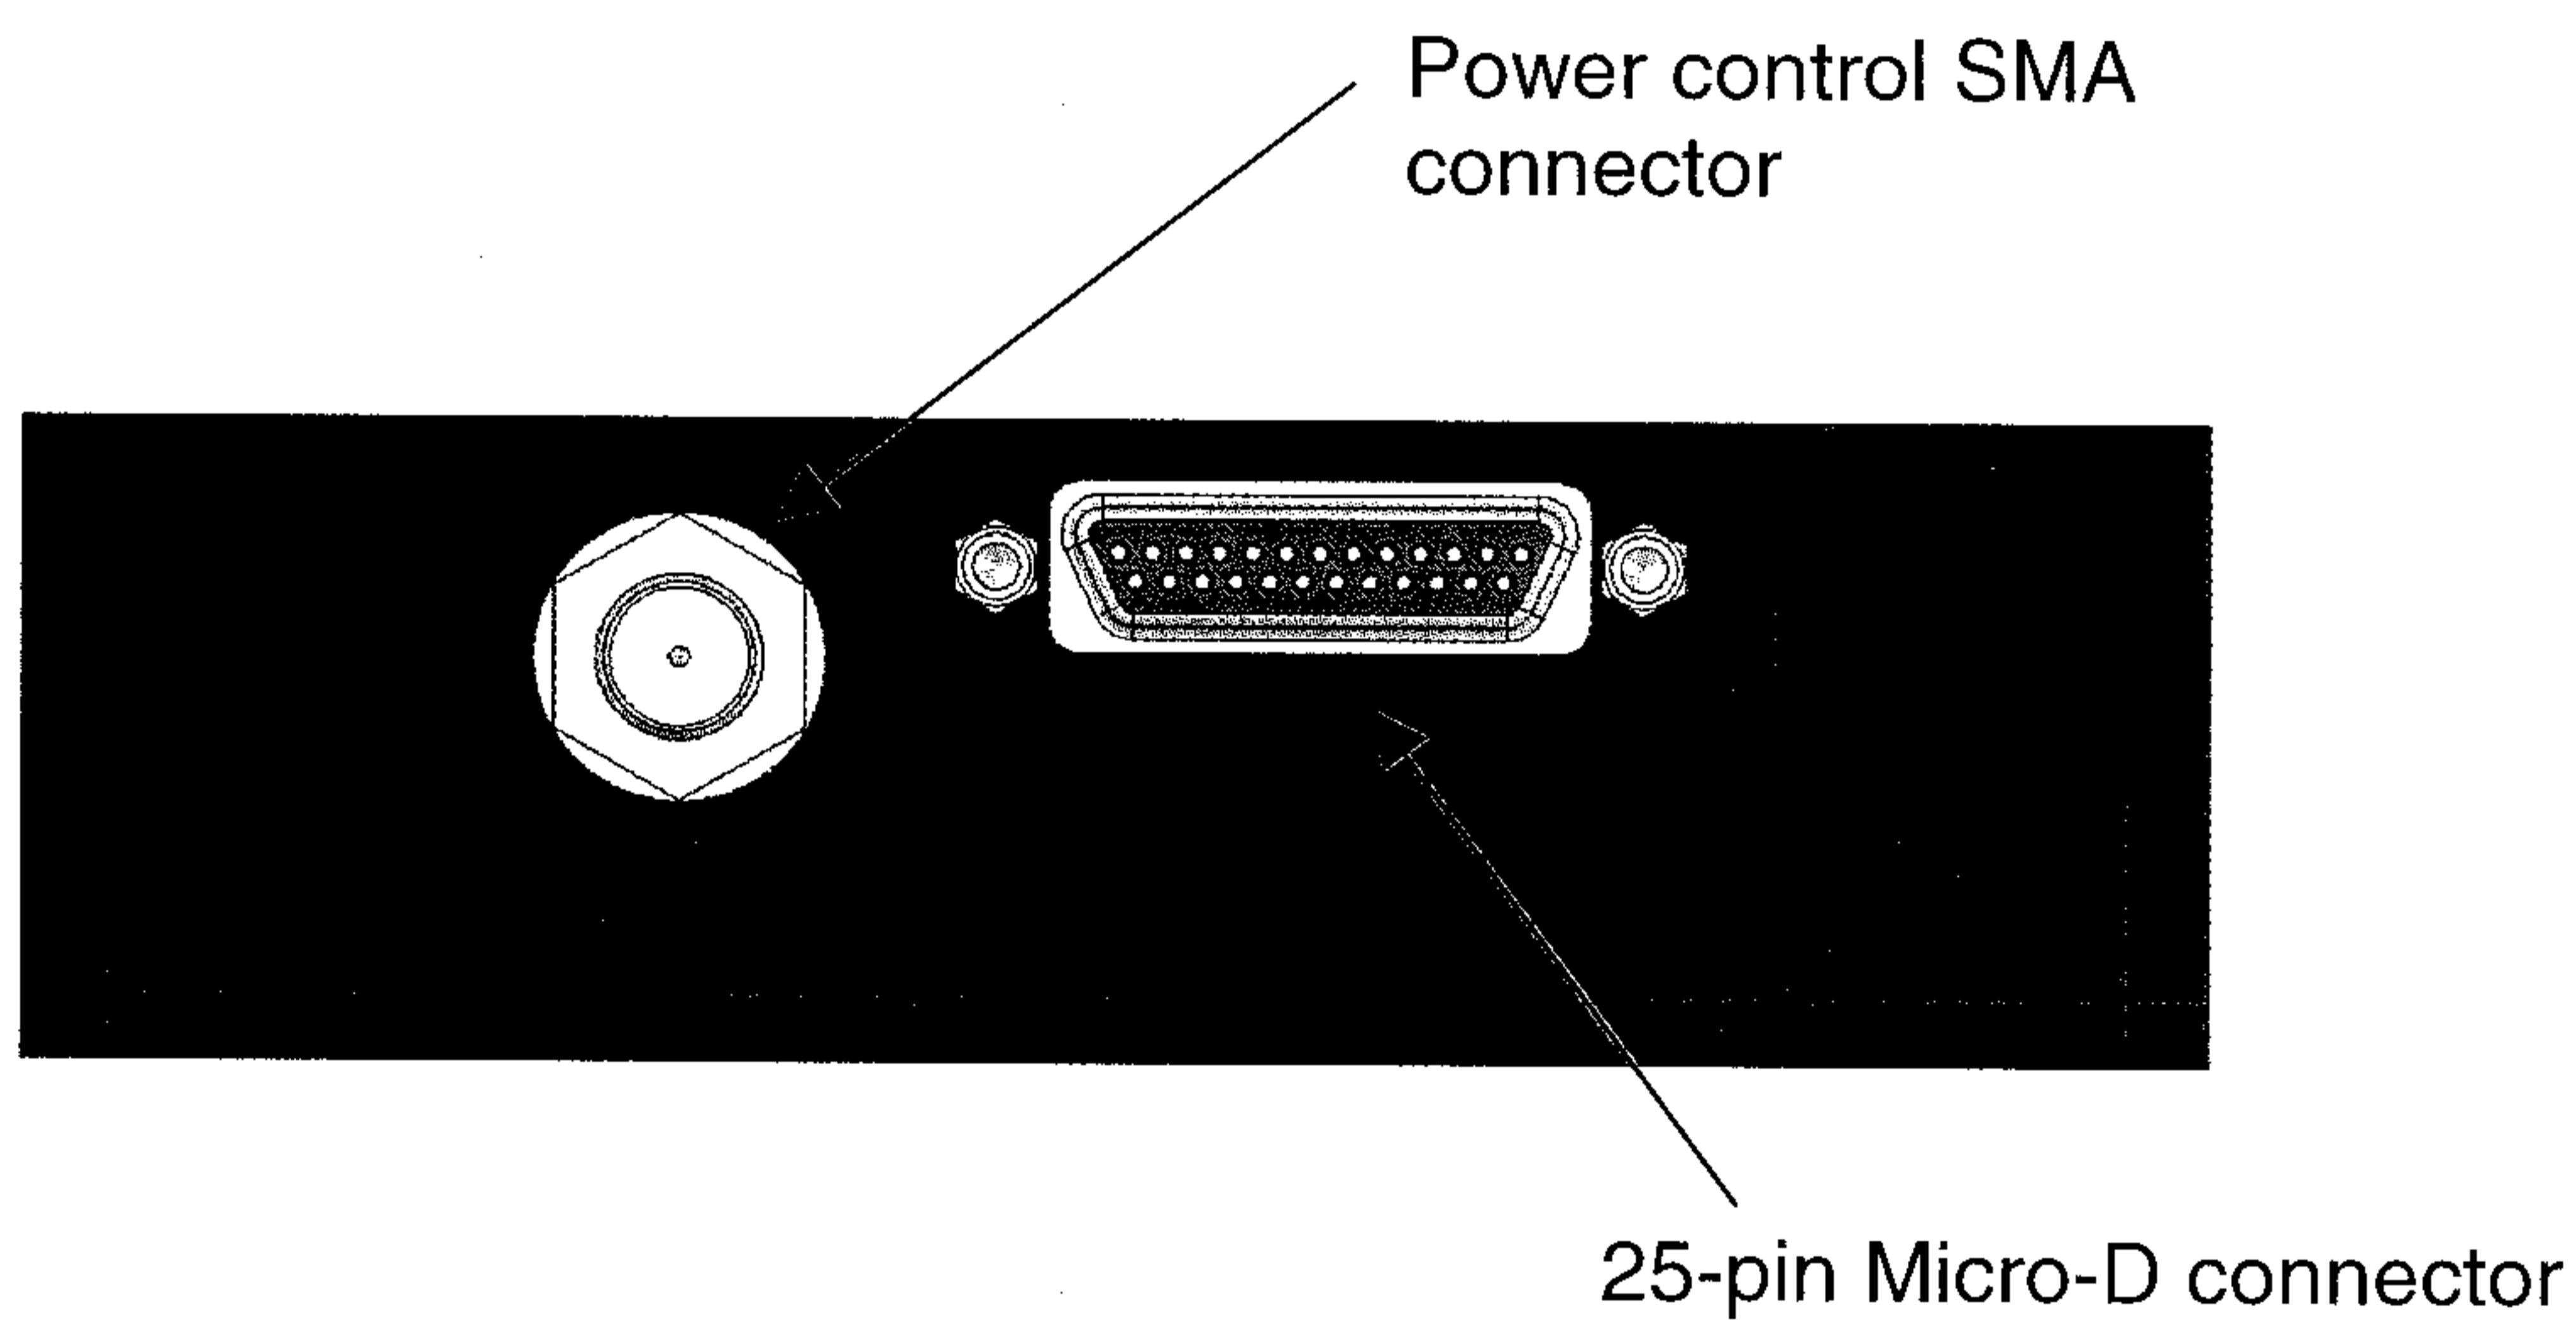

Figure 2 - Location of SMA & 25-pin D-sub connectors
2. Connect the power supply cable with 25-pin connector to the laser chassis. Module. See Figure 2. Use standard ESD protection practices when handling the laser module.
If power control is not needed, the laser can be operated with the power control SMA connector open. In this case the laser will operate at a factory preset power level. The output power of the laser can be set by applying a voltage nominally between 0 and 2.5V on the SMA connector (see Fig 2). Please refer to the laser data sheet (supplied with your laser) for the safe operating range for your particular laser.